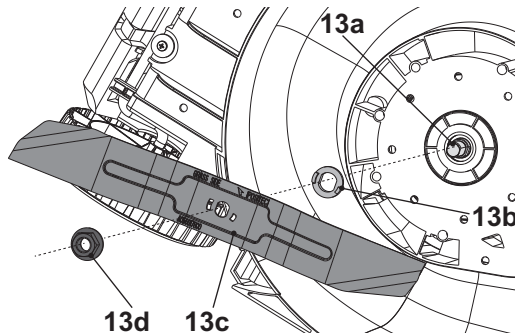

Fig. 18
1. Keep the underbody and cutting blade (13c) clean and free of debris. Remove clippings from the rear discharge chute (19).
4. Loosen the hex nut (13d) anti-clockwise using a suitable wrench (Size 17 mm) and remove it together with the cutting blade (13c) (Fig. 18).